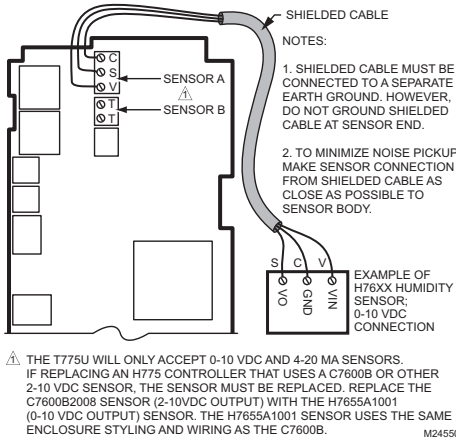

Fig. 5. Sensor Wiring — 3-wire shielded cable connection from Sensor A to 0-10 Vdc sensor (H76xx humidity sensor shown).
The sensors in Fig. 5 – 8 are examples and illustrate voltage and current wiring for 3-wire and 2-wire sensors to the Sensor A terminal. For terminal wiring details, see Fig. 11 and Table 2 on page 7. Other sensors are supported. See sensor descriptions on page 2.
1. Other transmitters can be wired in the same manner. For example, the 0-10Vdc wiring shown in Fig. 5 with the H76XX sensor can also be done with the P7640 or any other transmitter.